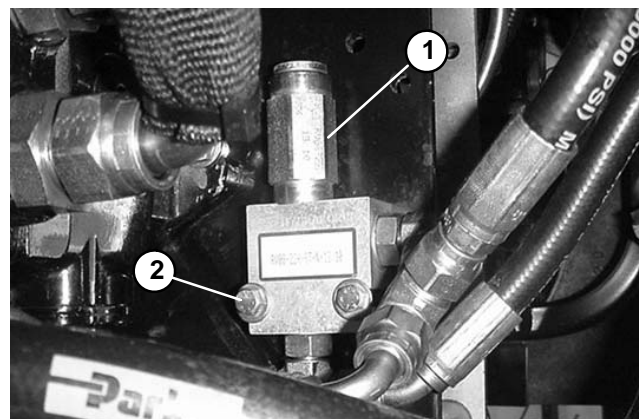

Figure 26
12. Separate relief valve from the pump plate by removing both cap screws flat washers, and lock nuts (Fig. 26).
8. Secure relief valve to the pump plate with both cap screws, flat washers, and lock nuts (Fig. 26).